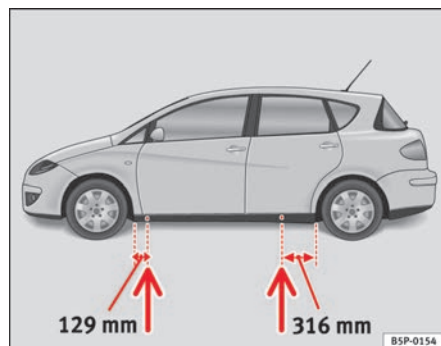

Fig. 170 The jacking points
- Locate the jacking point under the door sill closest to the wheel to be changed ⇒ fig. 170.
Recesses at the front and rear of the door sills mark the jacking points ⇒ fig. 170. A position has been made for each wheel. Do not fit the jack anywhere else.